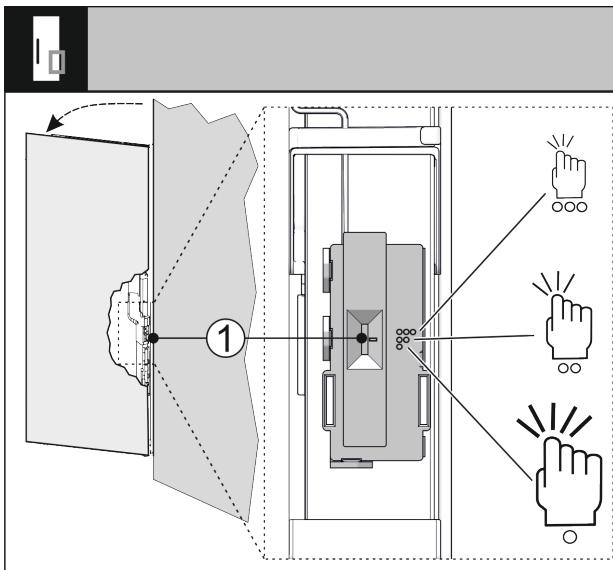

Fig. 32
You can use a switch Fig. 32 (1) to adjust the sensitivity of the knocking sensor. The switch is on the bottom third of the door on the hinge side.
- Move the switch *Fig. 32 (1)* to the required switch position.